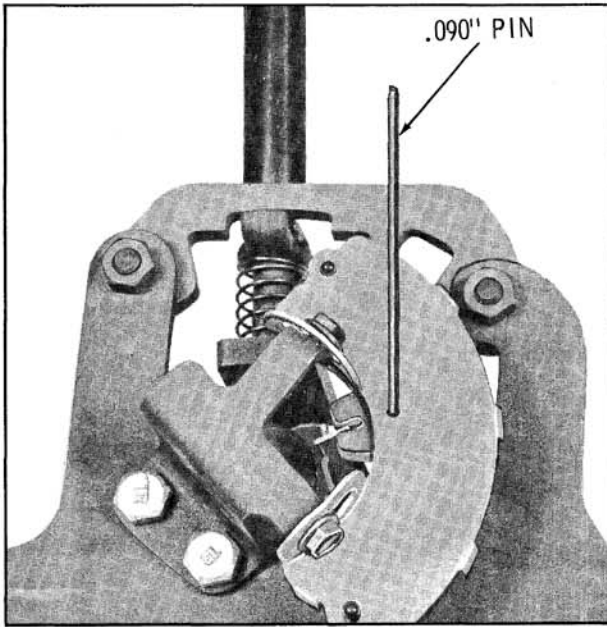

Fig. 12-118 Adjusting Switch
4. Position the switch so that a .090" gauge pin can be inserted into the hole as indicated in Fig. 12-118.